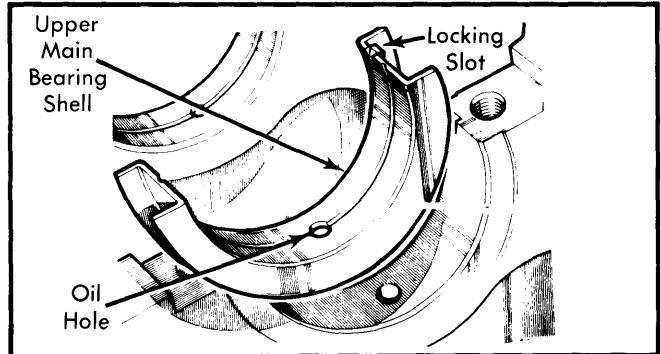

Fig. 6 Installing Upper Main Bearing Shell
3) Install upper bearing shell 3 (thrust bearing) to cylinder block. Upper shells have central oil hole and must be lubricated prior to installation. See Fig. 6. Install with locking slot end trailing. Then, install upper shells 2 and 4 in same manner.